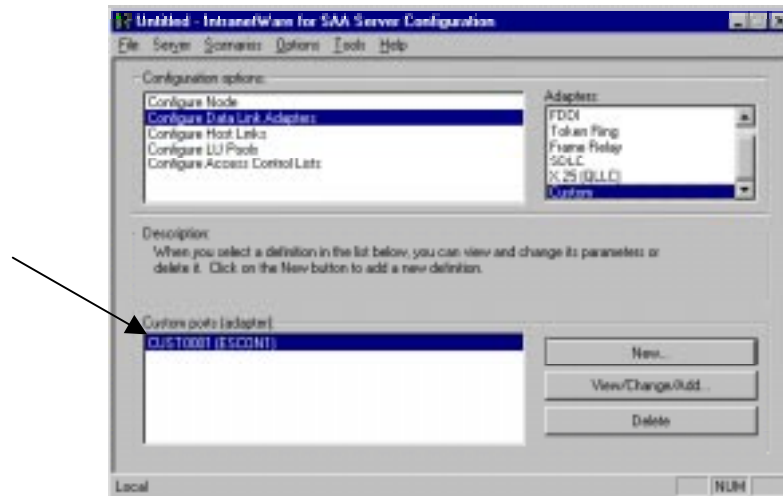

Figure 15-25. ESCON Adapter in SAA
1. Begin by verifying that the adapter is defined in the configuration. In the NetWare for SAA Configuration program, click “**Configure Data Link Adapters**” and then “**Custom**”. A custom adapter should be defined (Figure 15-25) for each host link (PU) that you have defined.